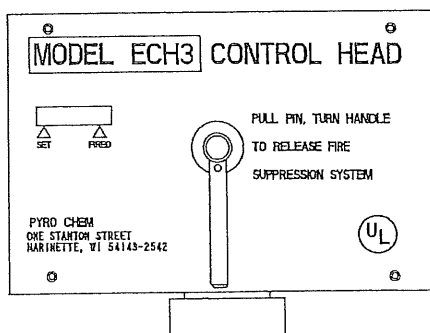

Figure 2-6. Electric Control Head.
- ▶ maximum of five (5) cylinders. See Figure 2-6.